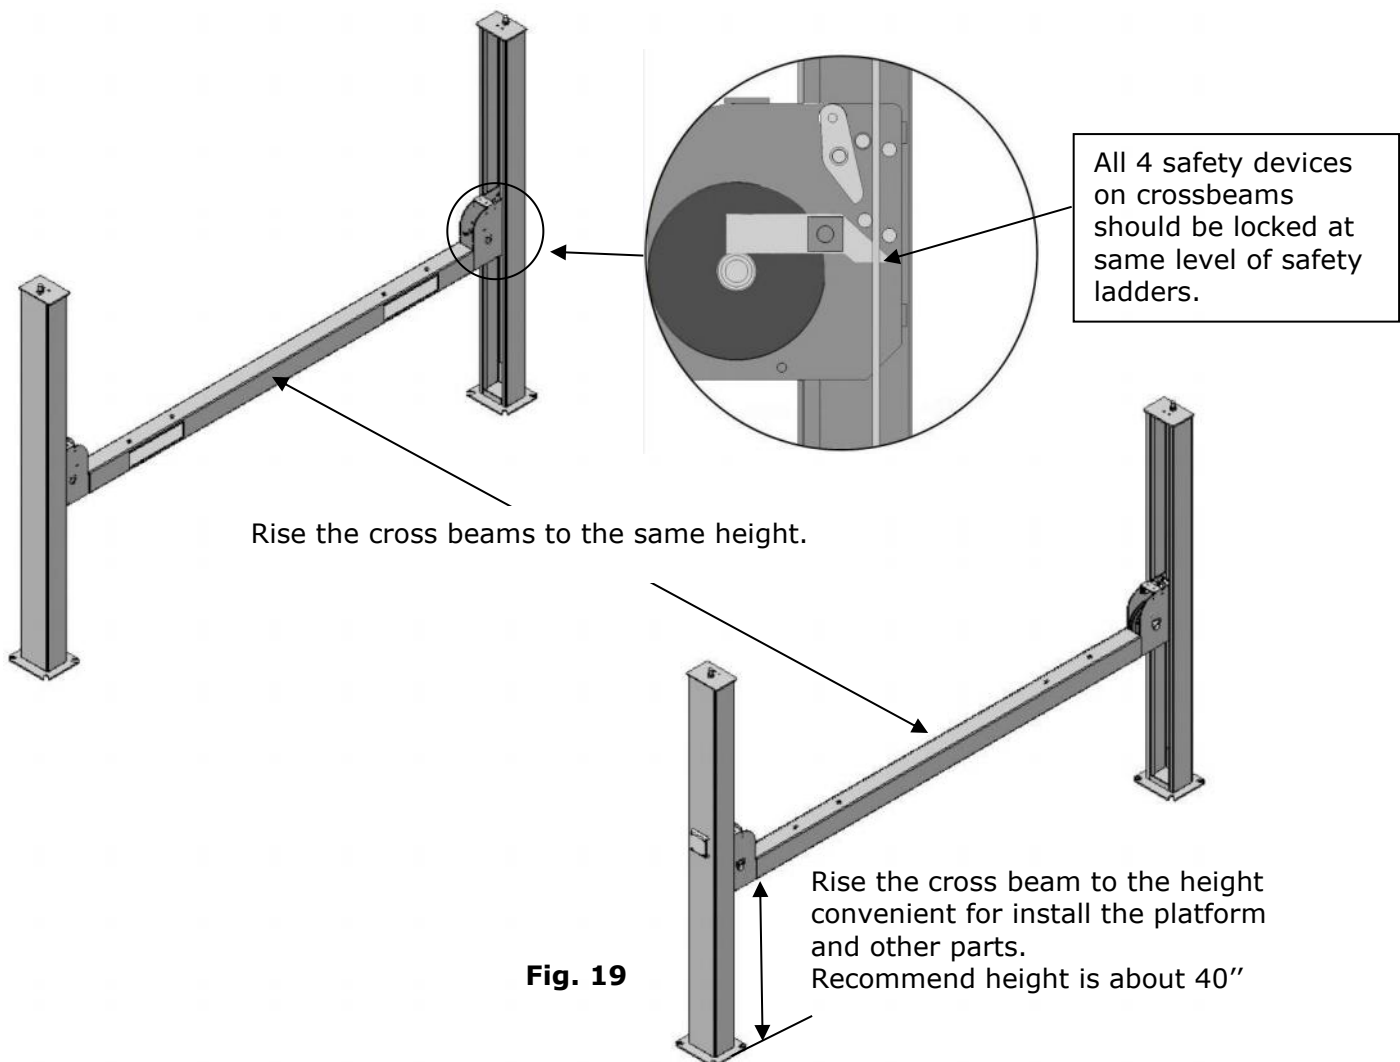

Fig. 19
G. Raise the cross beams at the same height (See Fig. 19).